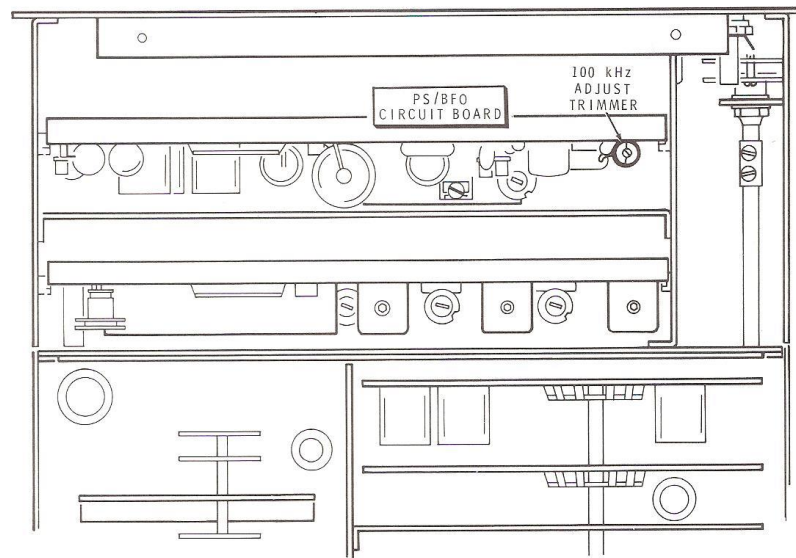

Figure 11
- () Turn the FUNCTION switch to 100 kHz. The tone from the calibrator should be heard. Refer to Figure 11 and adjust 100 kHz ADJ trimmer capacitor C606 on the power supply/BFO circuit board so the calibrator tone goes lower and lower in frequency and disappears. The calibration oscillator is now in zero beat with WWV.
- () Refer to Figure 11 and adjust 100 kHz ADJ trimmer capacitor C606 on the SB-303 power supply/BFO circuit board until you hear the calibrator tone in the other receiver go lower and lower in frequency and disappear. NOTE: When WWV is used, the period when no tone modulation is present allows easier identification of the zero beat.